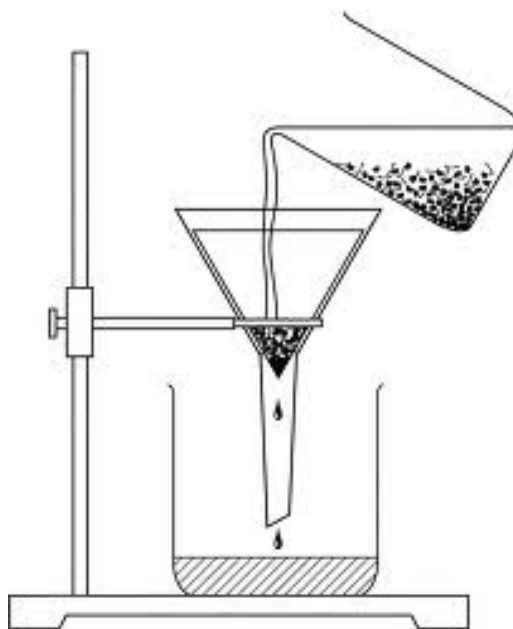

Figure 1: The set-up of filtering apparatus.
- a. Set up the equipment as shown in Figure 1.